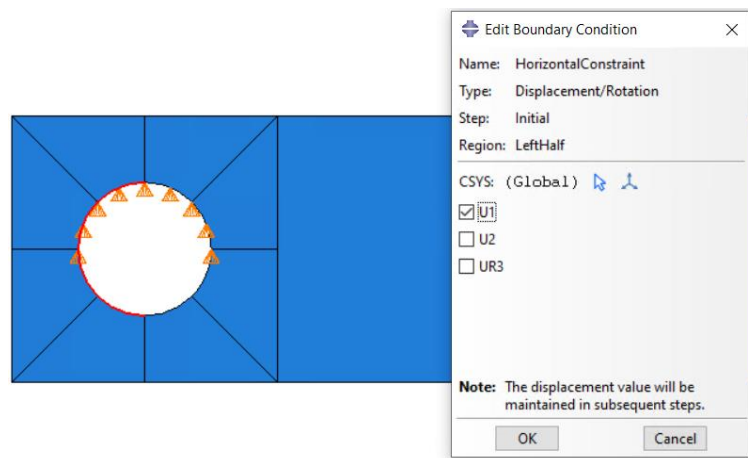

Figure 3-17 – Assigning boundary conditions restricting horizontal movement of the beam at the hole.
17. Repeat 15 for the horizontal constraint. Select the edges of the left perimeter of the hole. Assign appropriate names to the boundary condition and the new set. See Figure 3-17.
18. In the **Edit Boundary Condition** dialog box, toggle on **U1** since only the horizontal translational degrees of freedom need to be constrained in this boundary condition. See Figure 3-17. Click **OK**.